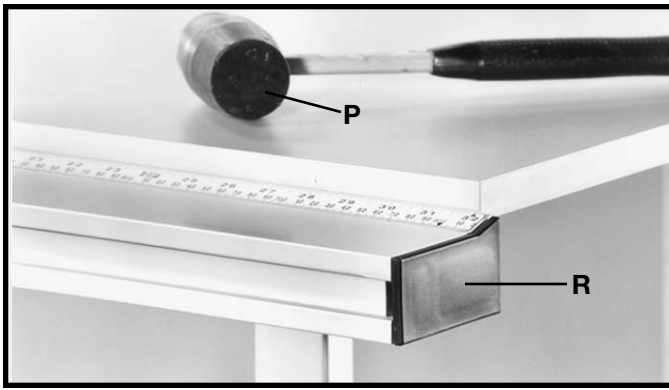

Fig. 61
7. Using a rubber mallet (P) Fig. 61, or a hammer and a block of wood, gently tap end cap (R) into both ends of the guide rail. **NOTE:** Do not hit the rail with a metal hammer as it may damage the rail.